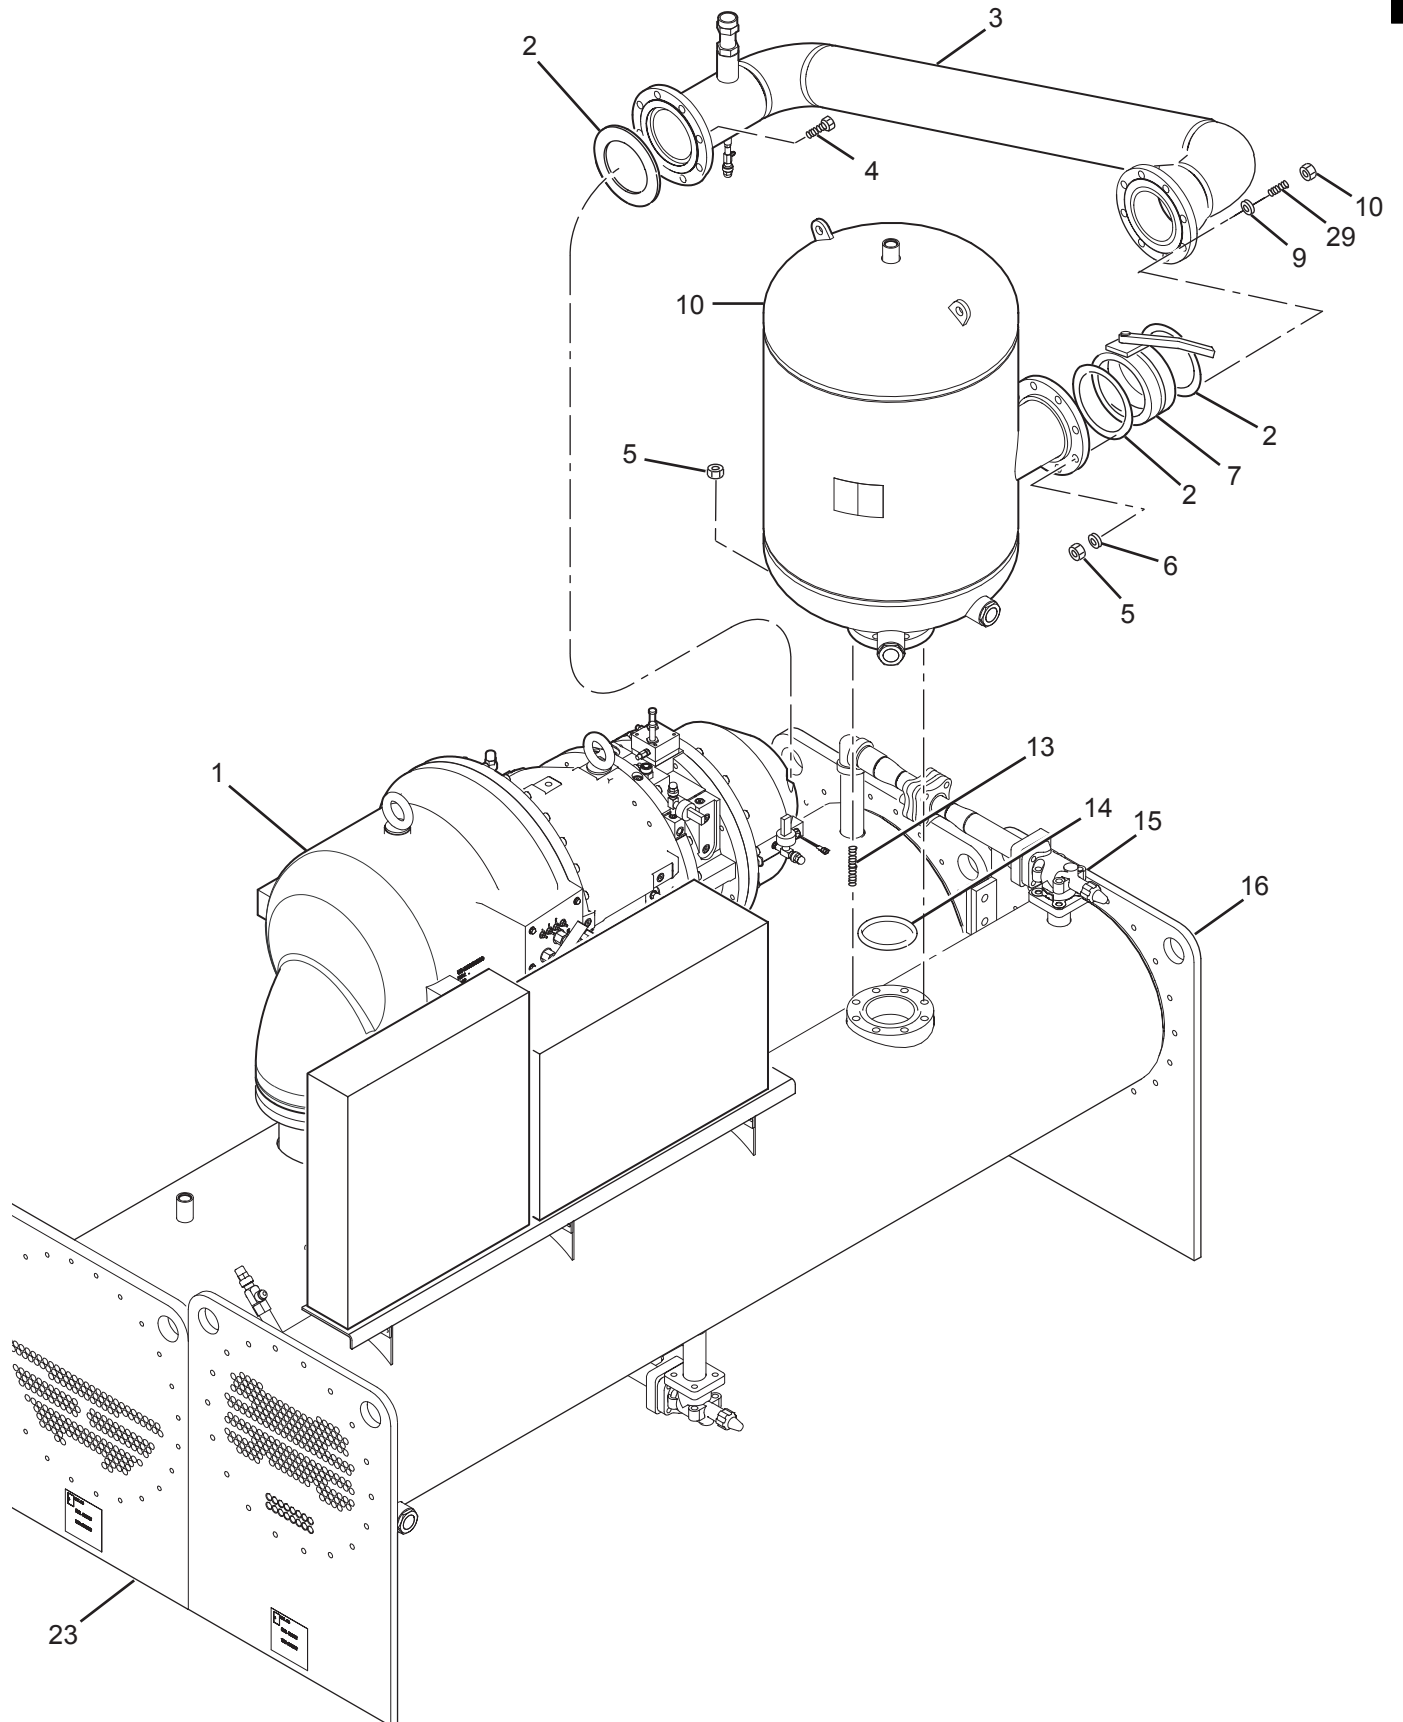

FIG. 10 – FORM 8 FIELD ASSEMBLY – EXPLODED VIEW
3. Remove all cover closures from the oil separator flanges and wipe all connection surfaces clean. Lower the oil separator carefully keeping it level and horizontal to the condenser shell. Line up the compressor discharge port with the oil separator connection. Push the oil separator connection until it seats itself. Use cap screws and washers to fasten the oil separator connection to the compressor. Complete the connection to the condenser shell using cap screws and nuts. Keep hoist rigging attached to the oil separator. (Refer to Figure 10)